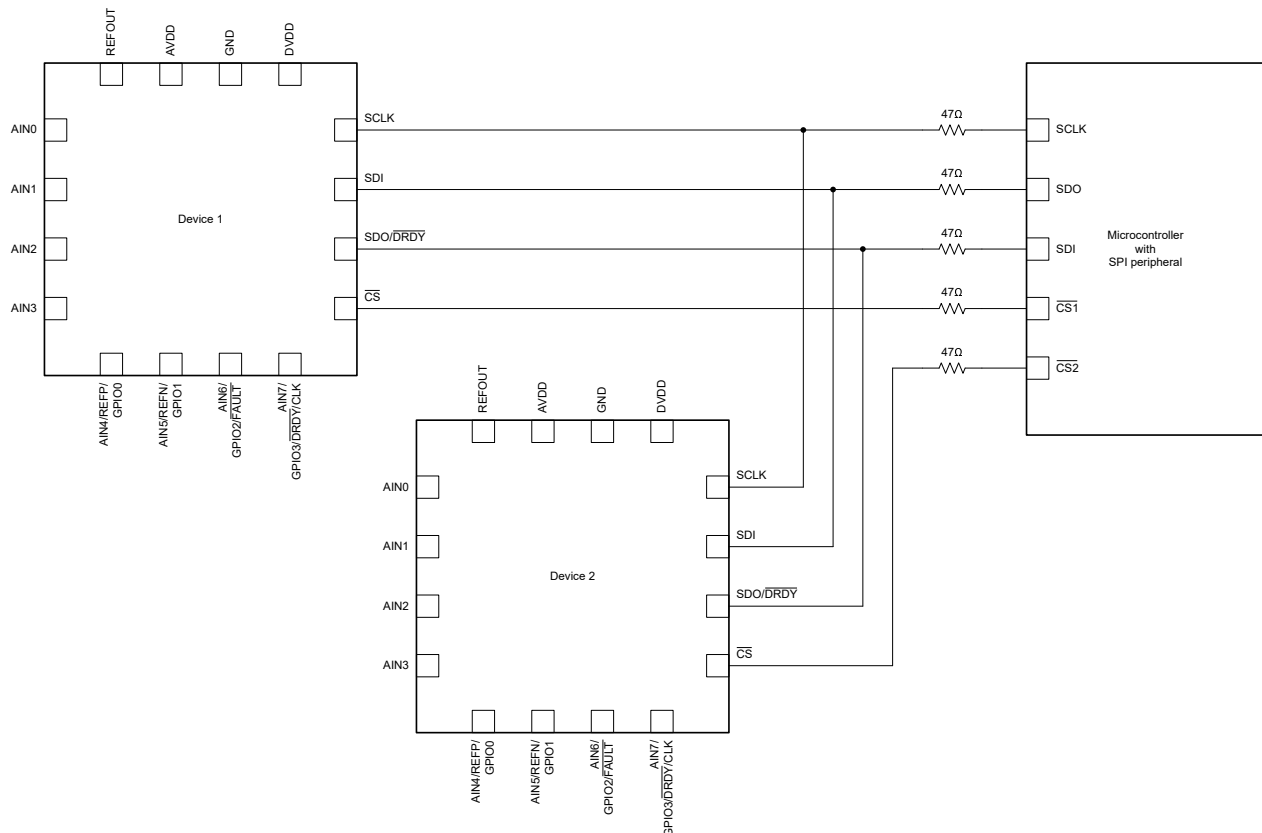

Figure 9-2. Multiple Device Serial Interface Connections using individual \overline{CS} Signals
- Using a dedicated \overline{CS} signal for each device as shown in Figure 9-2. All devices share the SCLK, SDI and SDO/DRDY signals in this case. Only the device with \overline{CS} low drives the SDO/DRDY pin. The SDO/DRDY outputs of all other devices, which have \overline{CS} high, are in a high-Z state to avoid contention on the SDO line. The host controller interfaces with each device one at a time.